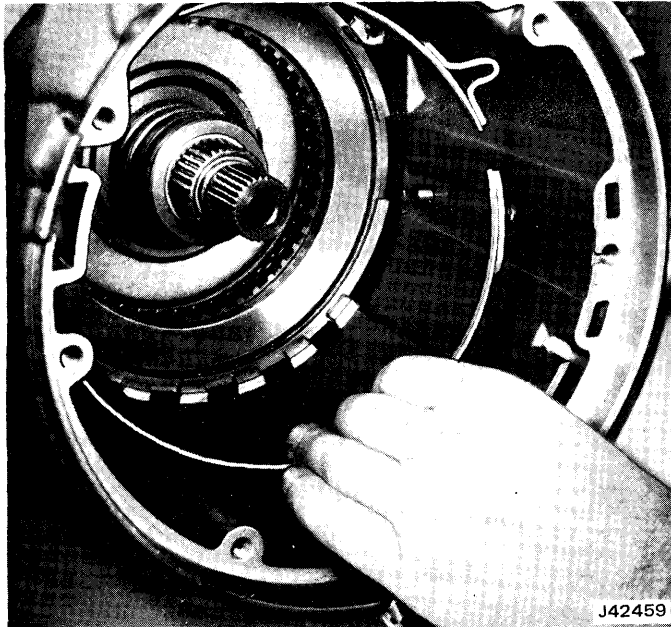

Fig. 7-30 Removing—Installing Front Band
- (1) Remove front band assembly (fig. 7-30).